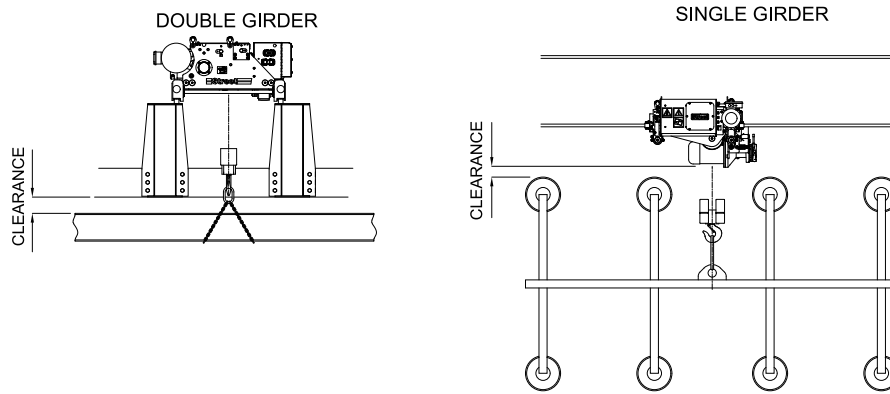

Figure 24 – Clearances to consider when lifting
18. Ensure that adequate clearance is maintained between the load or lifting attachment and the hoist or crane structure (Figure 24).